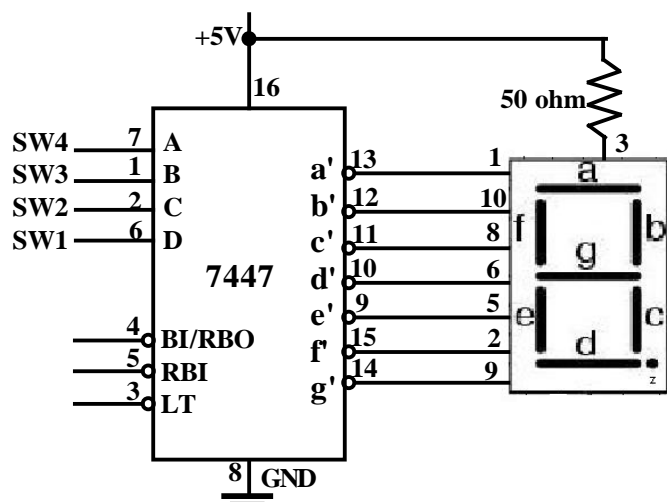

Figure 5.1. BCD to 7-segment decoder.
1. Set up the circuit shown in figure 5.1 and make sure to connect pin 16 to +5Vdc and pin 8 to ground of the 7447 IC, while pin 3 of the 7-segment display is connected to +5Vdc through 50 ohm resistor and the output of the 7447 IC is applied to the inputs of the 7-segment display.
- Construct the synchronous 4-bit binary counter circuit shown in figure 5.2. The connection of 7447 IC & 7-segment display is the same as in figure 5.1 except that pins 3&5 are connected to +5Vdc. Either you connect pin 4 or 5 to the CLK switch (1Hz pulse) & the other pin to +5Vdc of the 74192 IC.